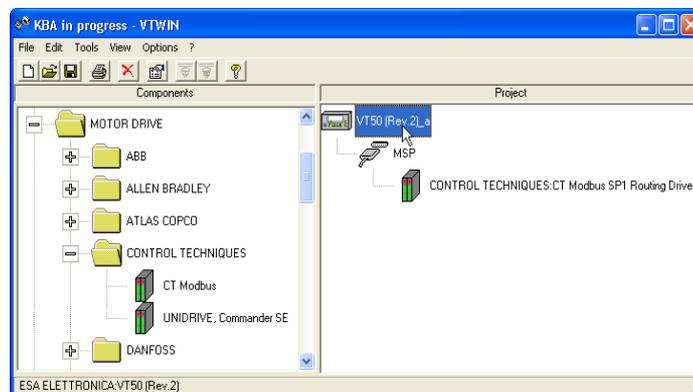

Fig. 9.
3.8 Highlight the VT50 icon and double click on it, the *Project Components* window will come up. See Figs. 9 and 10.